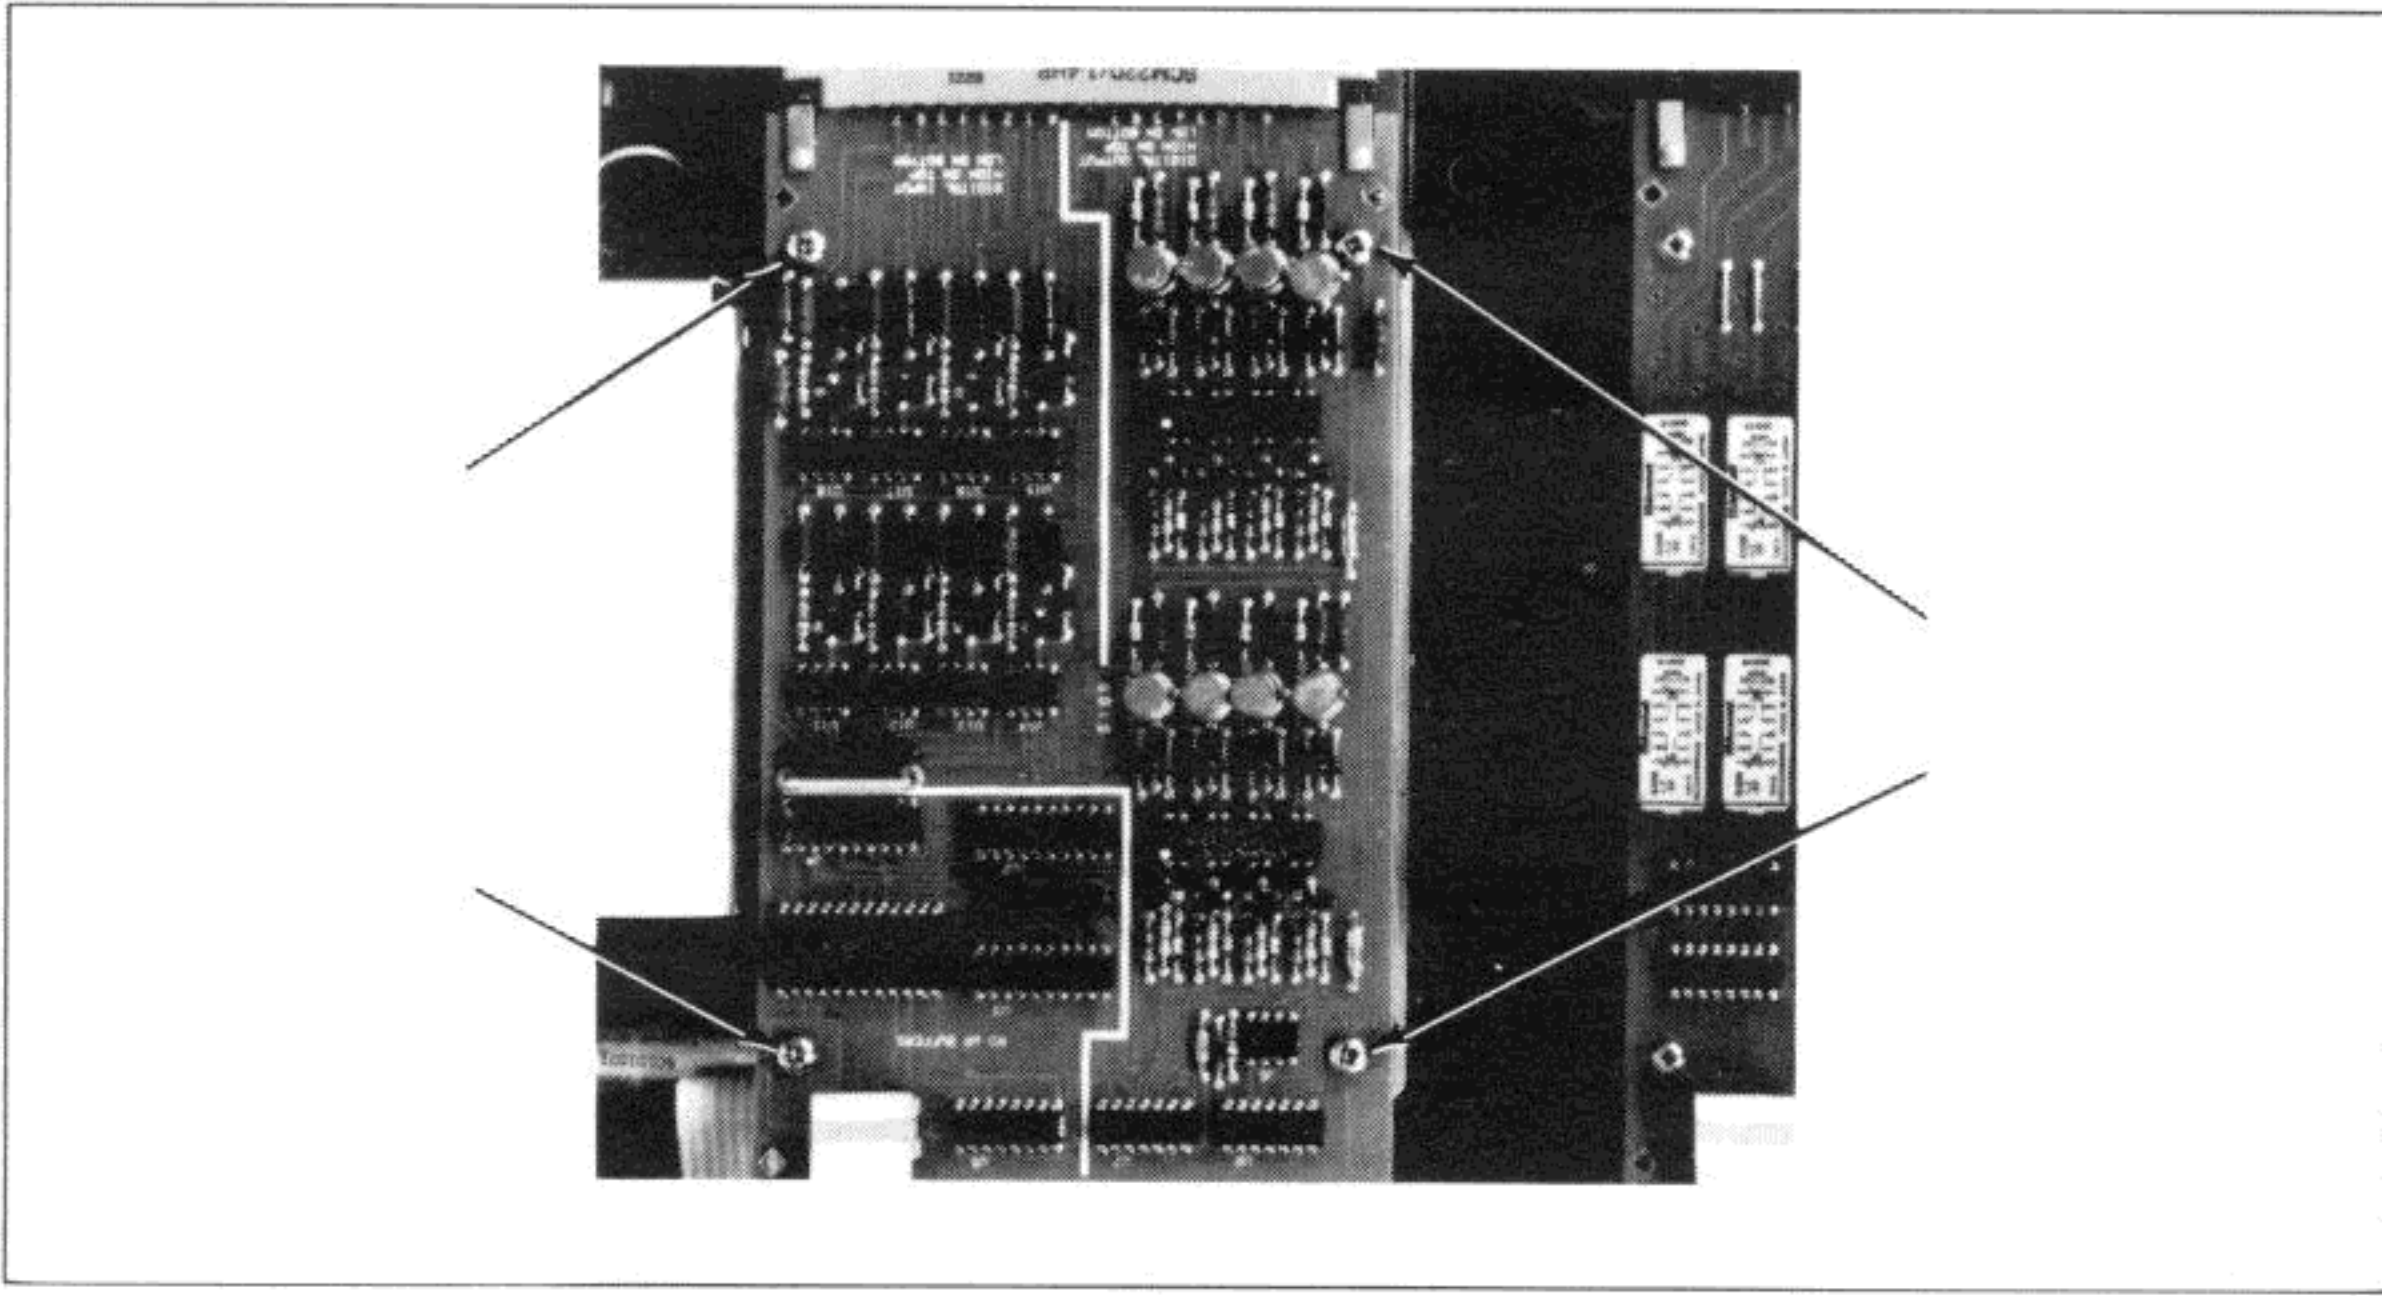

Figure 4-2-3. Removing the Slot 2 Option
f. If an option is installed in slot 2, refer to Figure 4-2-3. Unplug the ribbon cable connector from the option in slot 2. Lift the connection straight up to avoid bending any pins. If the option is a Multiplexer Assembly, also unplug the 4-wire VM input cable. If the option is a Digital I/O or Breadboard Assembly, it will not have the 4-wire VM input cable.